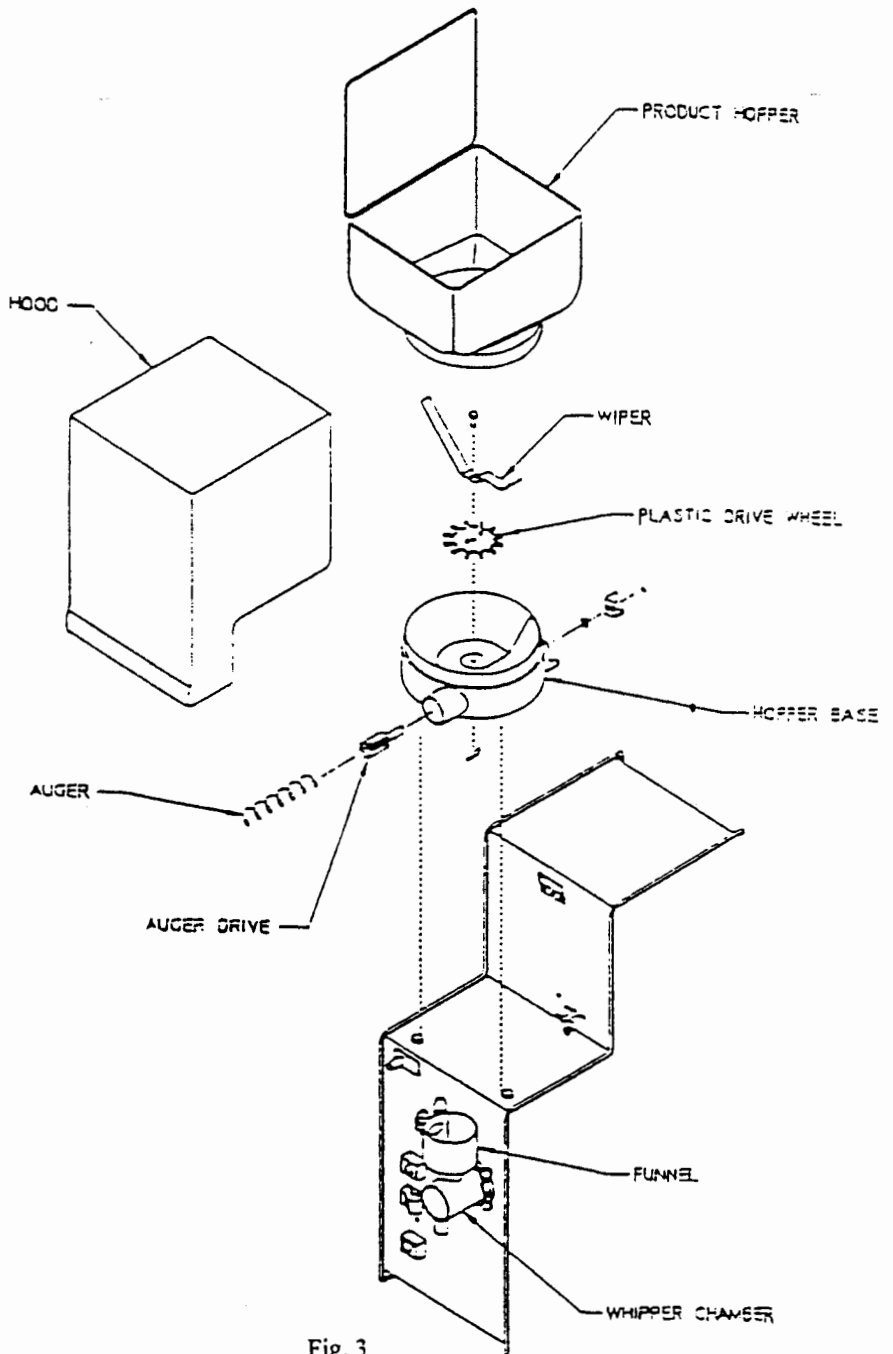

Fig. 3
The Jet Spray hot chocolate mixing system is self-cleaning. Each time a beverage is dispensed, hot water flushes the water system. However, periodic cleaning of the powder system and cleaning of the exterior cabinet and components is necessary for satisfactory operation (see Fig. 3). Proceed as follows:
- a. Remove parts from assembly as shown in Fig. 3. Do not remove the spring wiper from the auger.